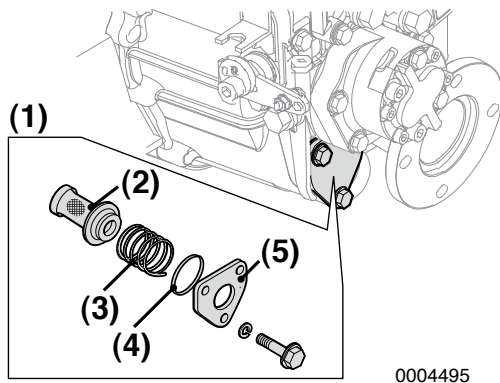

Figure 3
- c. Hold the filter in place with the coil spring (**Figure 3, (3)**) and insert into the case. Install a new O-ring (**Figure 3, (4)**) in the side cover.
- d. Install side cover (**Figure 3, (5)**) and tighten side cover bolts.
- a. Remove side cover (**Figure 3, (5)**) and remove the filter (**Figure 3, (2)**).